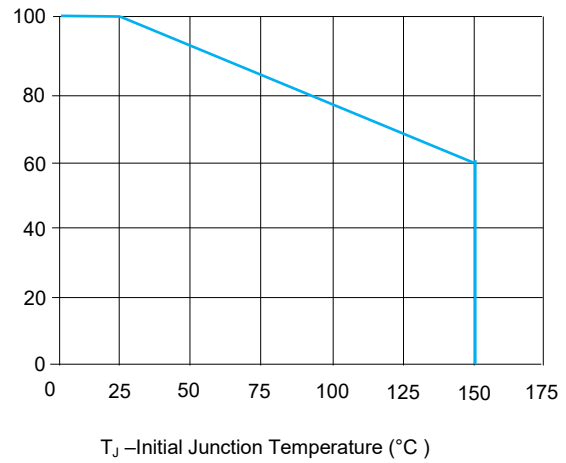

FIGURE 2 Peak Pulse Power Derating Curve
1. Non-repetitive current pulse, per Fig. 3 and derated above TJ (initial)=25 °C per Fig. 2.